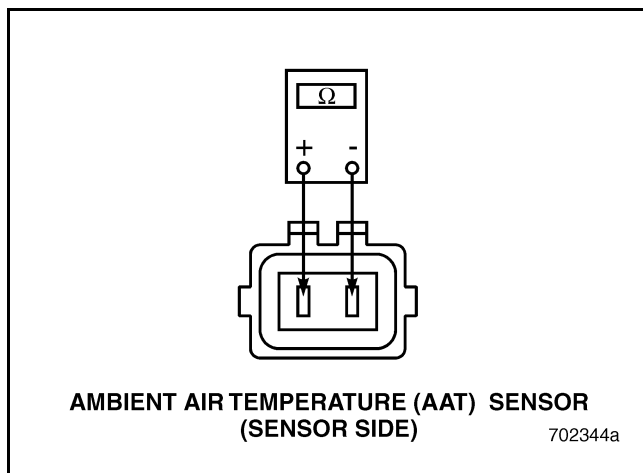

Figure 81
3. Measure the resistance across the pins of the AAT Sensor with the ambient air temperature between 32° and 104°F (0° and 40°C) (see Figure 81).